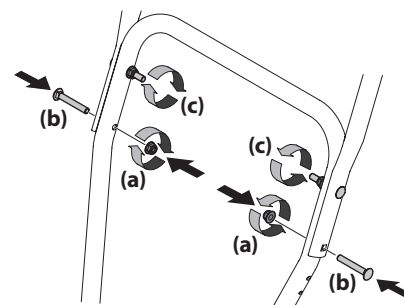
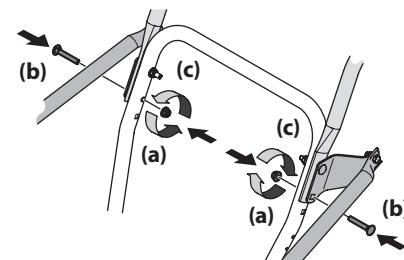

Figure 2-6
Figure 2-7
6. Attach the two carriage screws (b) and nuts (a) removed in Step 2. Finish securing the handle by tightening the top two nuts (c) loosened in Step 2. See Figure 2-6 or Figure 2-7 for units with side supports.